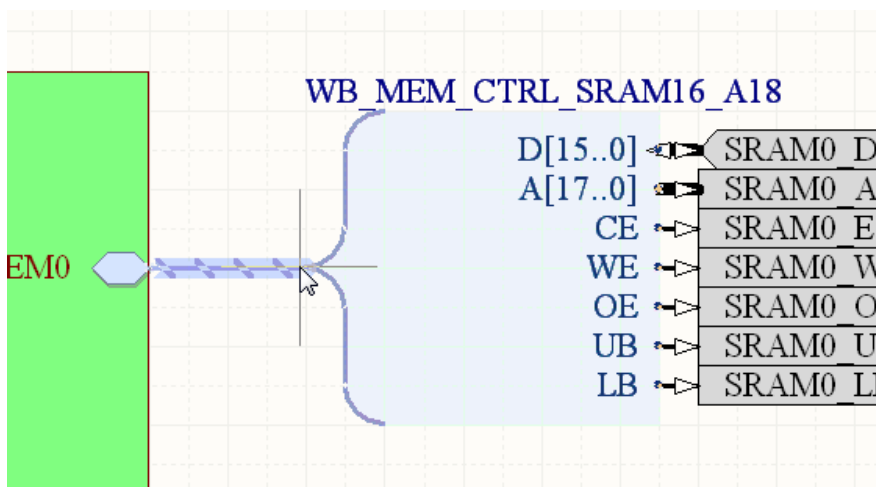

Figure 11. Drag the Harness Connector so that each entry touches a port on the memory port plug-in.
22. To drag the Harness Connector and automatically add the Harness line, hold Ctrl and click and hold on the Harness Connector, then drag it across so that each Harness Entry touches a pin on the memory port plug-in, as shown in Figure 11.